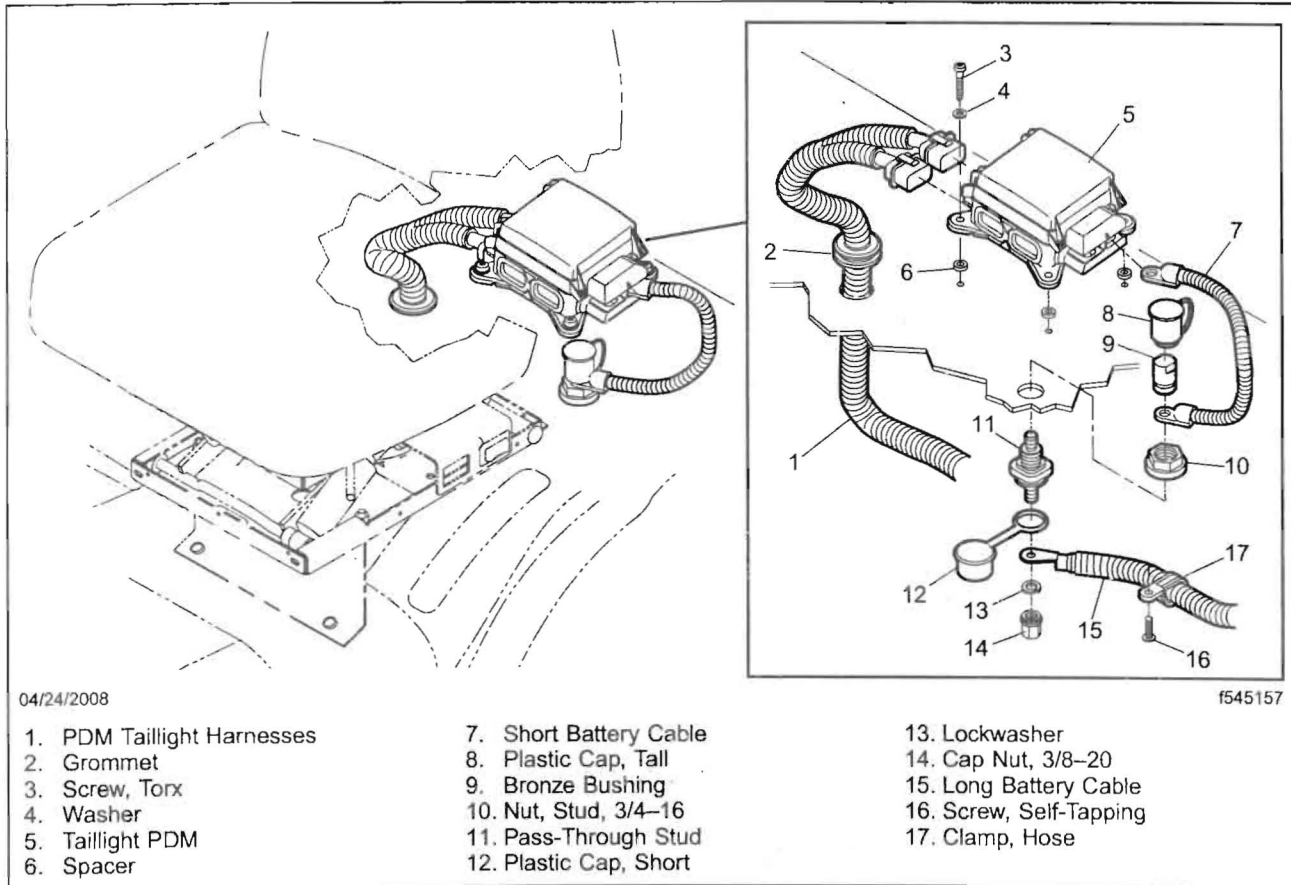

Fig. 6, Cab Installation of Taillight PDM
10. Install the grommet from the kit over the PDM harness and seat the harnesses in the inboard (1-3/8 inch, or 35 mm) hole. See Fig. 6.
13. Install the short battery cable from the kit. See Fig. 6.